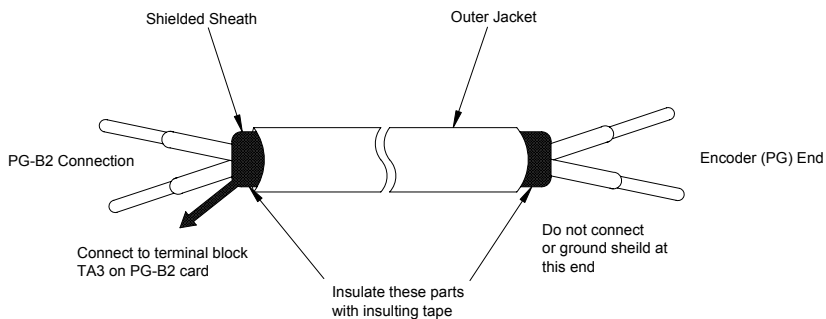

Fig. 5 Shielded Wire Termination
- Use a shielded wire to connect the encoder (PG). Connect the wires as shown in *Fig. 5* to prevent noise interference. The wire distance must be 328 ft. (100 m) or less. Provide an exclusive cable. (Refer to the table below.)